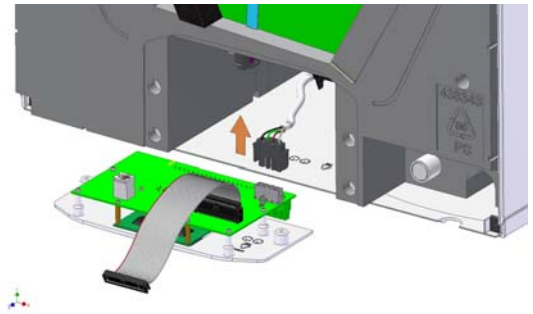

Figure 7: Disconnecting the 4-way connector (Front of Unit)
5. Disconnect the 4-way connector (see *Figure 7*).